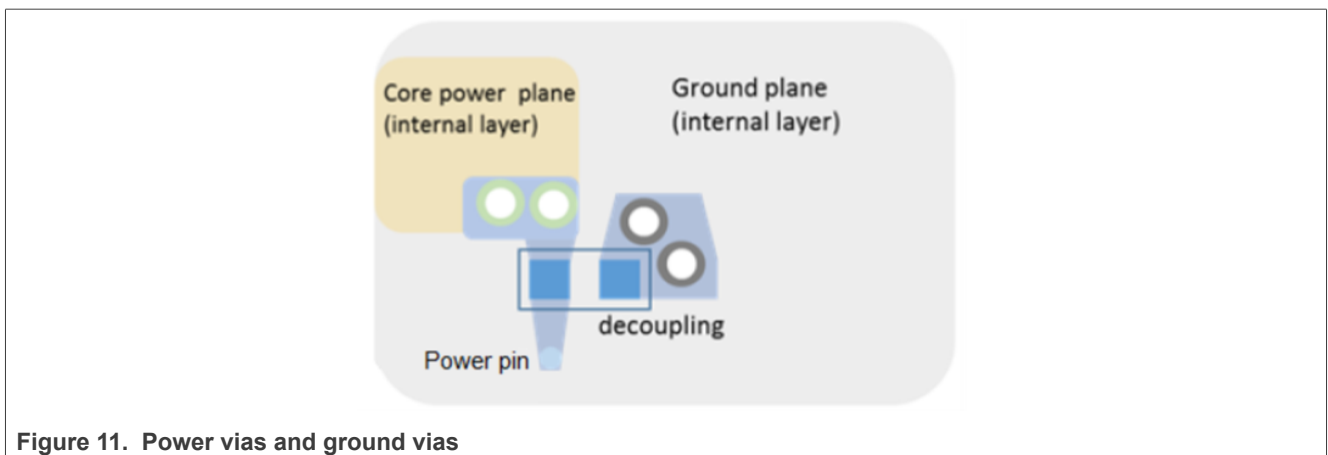

Figure 11. Power vias and ground vias
- Place the power vias and ground vias as close as possible to the decoupling capacitors, as shown in Figure 11.